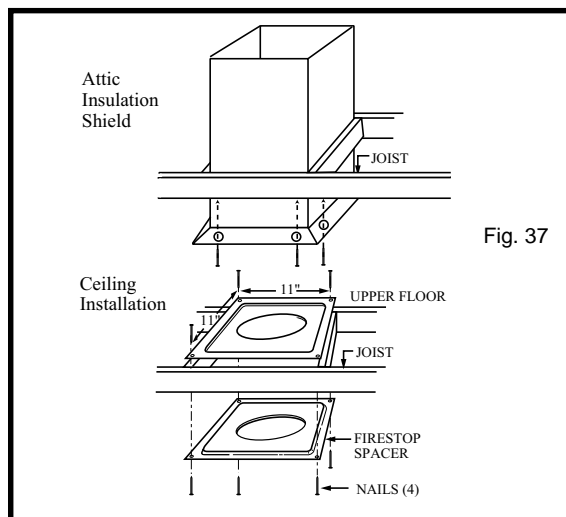

Fig. 37
6. Place firestop(s) #7DVFS into position and secure. (Fig. 37)
Fig. 37 If there is a room above ceiling level, firestop spacer must be installed on both the bottom and the top side of the ceiling joists. If an attic is above ceiling level a 7DVAIS (Attic Insulation Shield) must be installed.